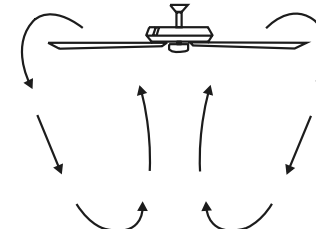

Fig. 26
**Cool weather** - When the fan is rotating in **“REVERSE”** (fan rotates clockwise) the temperature of the room becomes warmer. An upward airflow moves warm air off the ceiling area as shown in **(Fig. 26)**. This allows you to set your heating unit on a cooler setting without affecting your comfort.